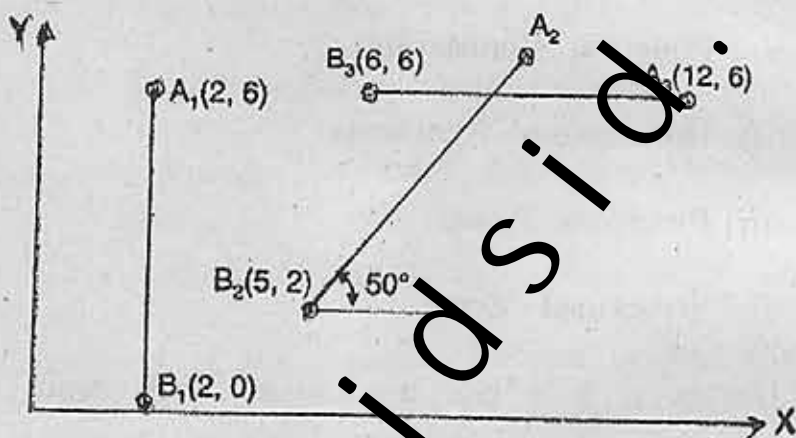

Fig. 6
- (b) Synthesize a four bar mechanism to guide a rod "AB" through 3 consecutive positions A_1B_1 , A_2B_2 and A_3B_3 as shown in Fig. 6. [6]